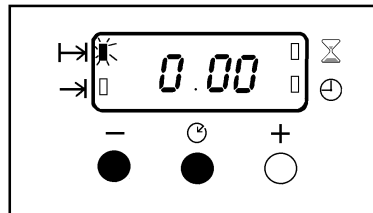

Fig.12.
- i) To cancel an automatic programme press the Selector Control button until the 'Cook Time' indicator neon ($\text{H} \rightarrow$) neon flashes. Press the decrease control (-) until the display reads 0.00 as Fig. 12.